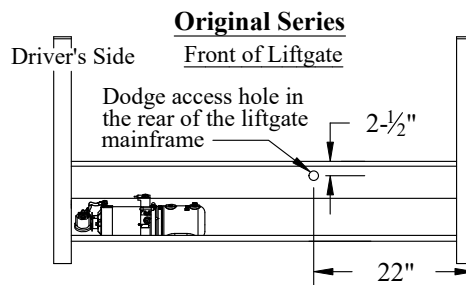

Figure 18: Original Series spare tire access.
2. **Remove and Discard** the black plastic plug from the mainframe in the location shown (Figure 18).